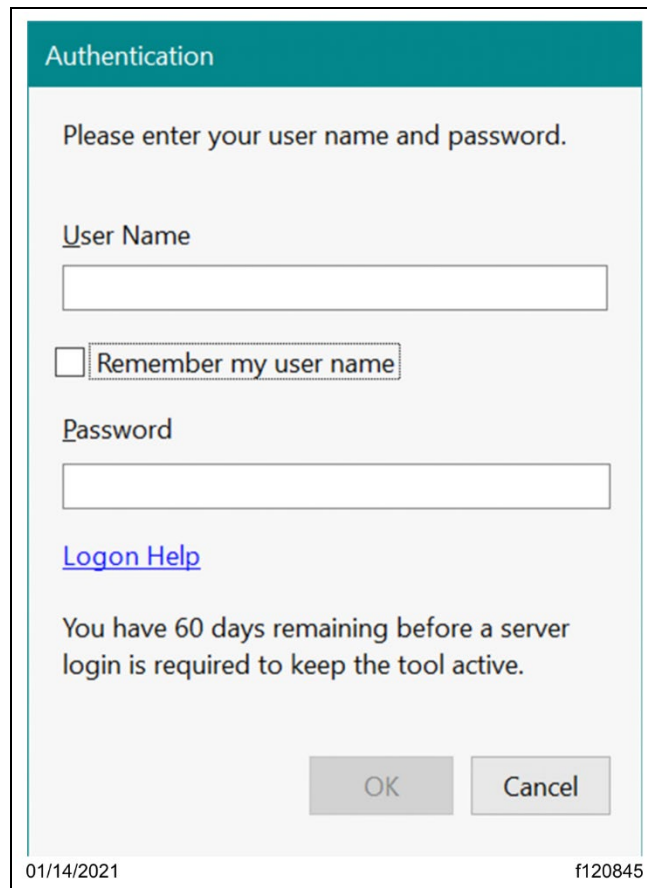

Fig. 15, Login Window
- 7.6. Using the DTNACconnect credentials, connect to the server. The sign-in to the server will remain active until the DiagnosticLink is closed. See Fig. 15.